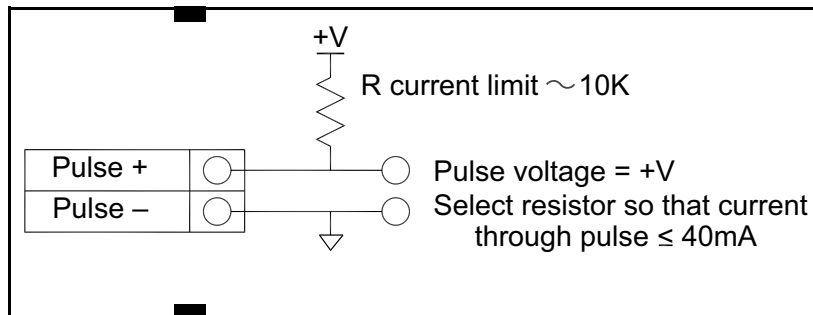

Figure 42: Isolated Pulse Output with External Power Supply
- For AC or DC powered meters, use a separate 5 to 36 VDC power supply (see Figure 42 on page 44). Use this option if a specific voltage is needed for the pulse output.